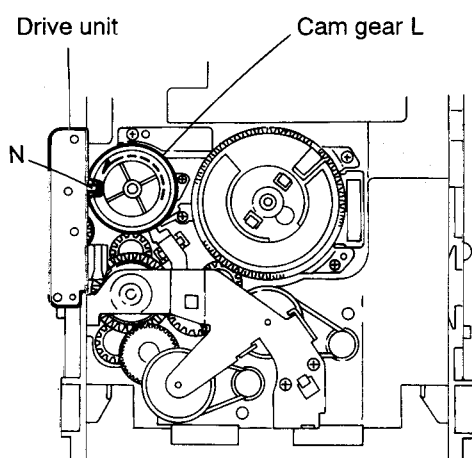

Fig. 5-30
(See Figs. 5-30~5-32)
2. While turning the cam gear L, align the pawl (N) position of the drive unit to the notch position (Fig. 5-30) on the cam gear L.